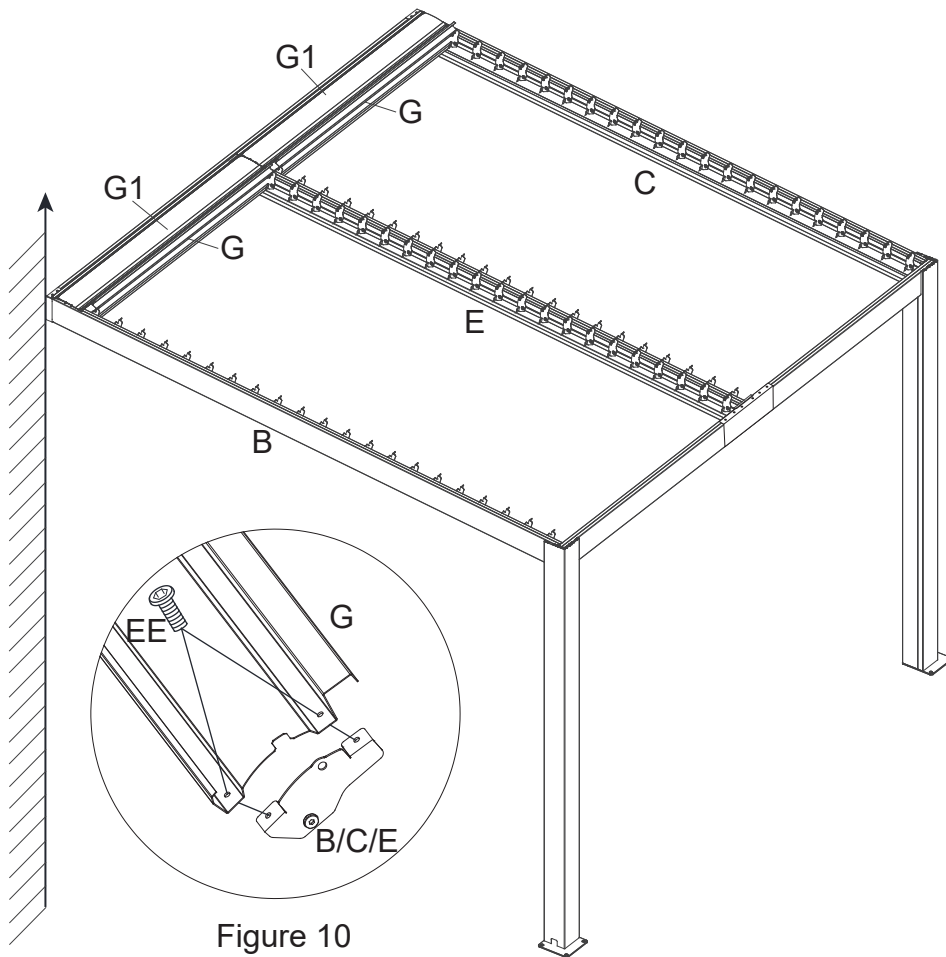

Figure 10
10. Connect the Louver (G) to the Lintels (B/C/E) and secure with the Bolts (EE). See Figure 10.